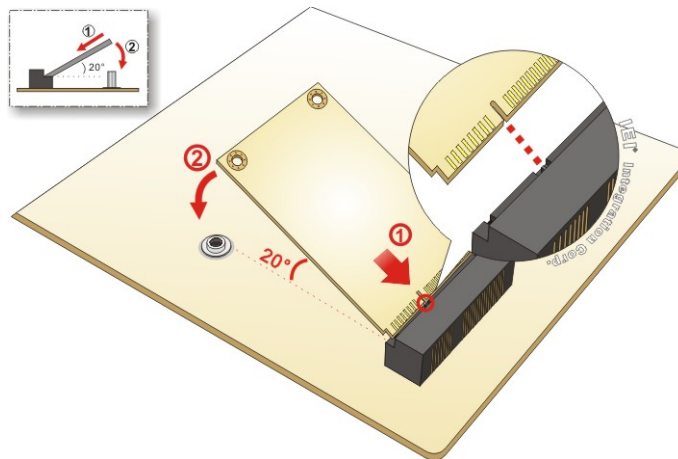

Figure 3-3: Inserting the Full-size PCIe Mini Card into the Slot at an Angle
Step 3: Line up the notch on the card with the notch on the slot. Slide the PCIe Mini card into the socket at an angle of about 20° (**Figure 3-3**).